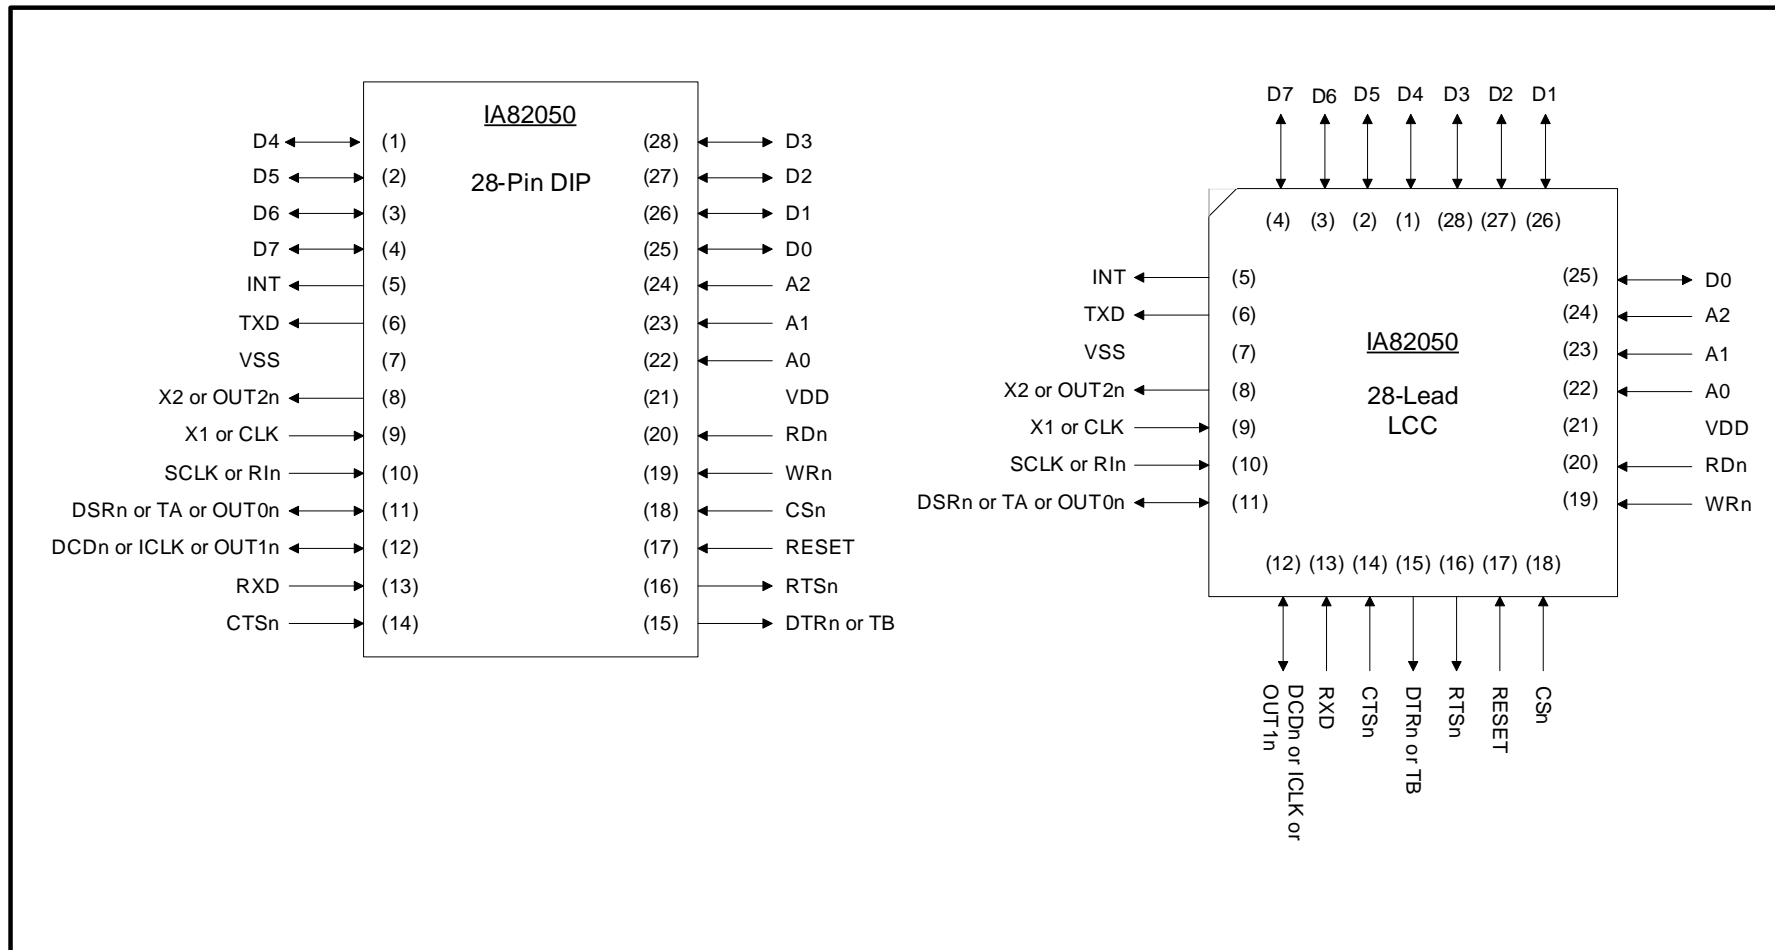

Figure 1. Package Pinout
| Figure 1. Package Pinout .....                   | 6  |
- Packaging options available: 28-Pin Plastic DIP and 28-Lead Plastic Leaded Chip Carrier (see Figure 1, Package Pinout)